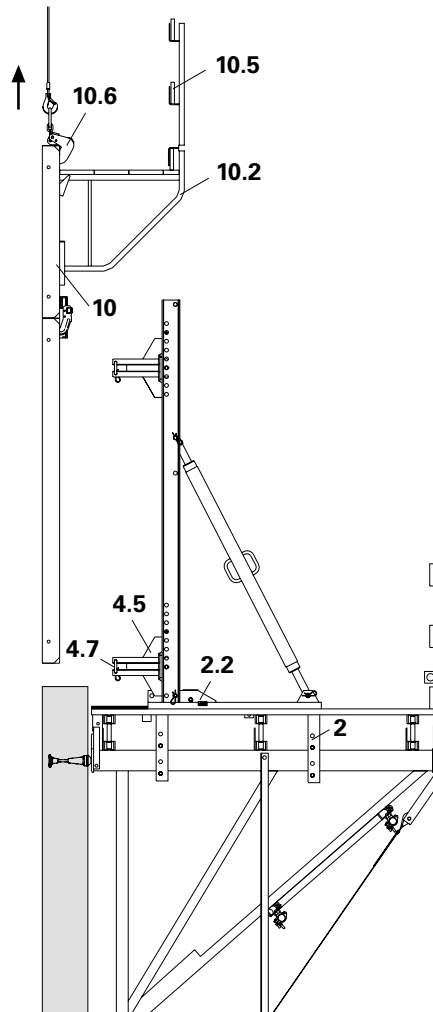

Fig. B2.20
1. Retract Carriage (2) and secure with wedge (2.2), see B4.1. Brace strong-backs laterally.
2. Fix MAXIMO Lifting Hook (10.6) to the formwork unit (10) and then attach lifting gear.
5. Raise formwork and remove (e.g. storage area). (Fig. B2.20)